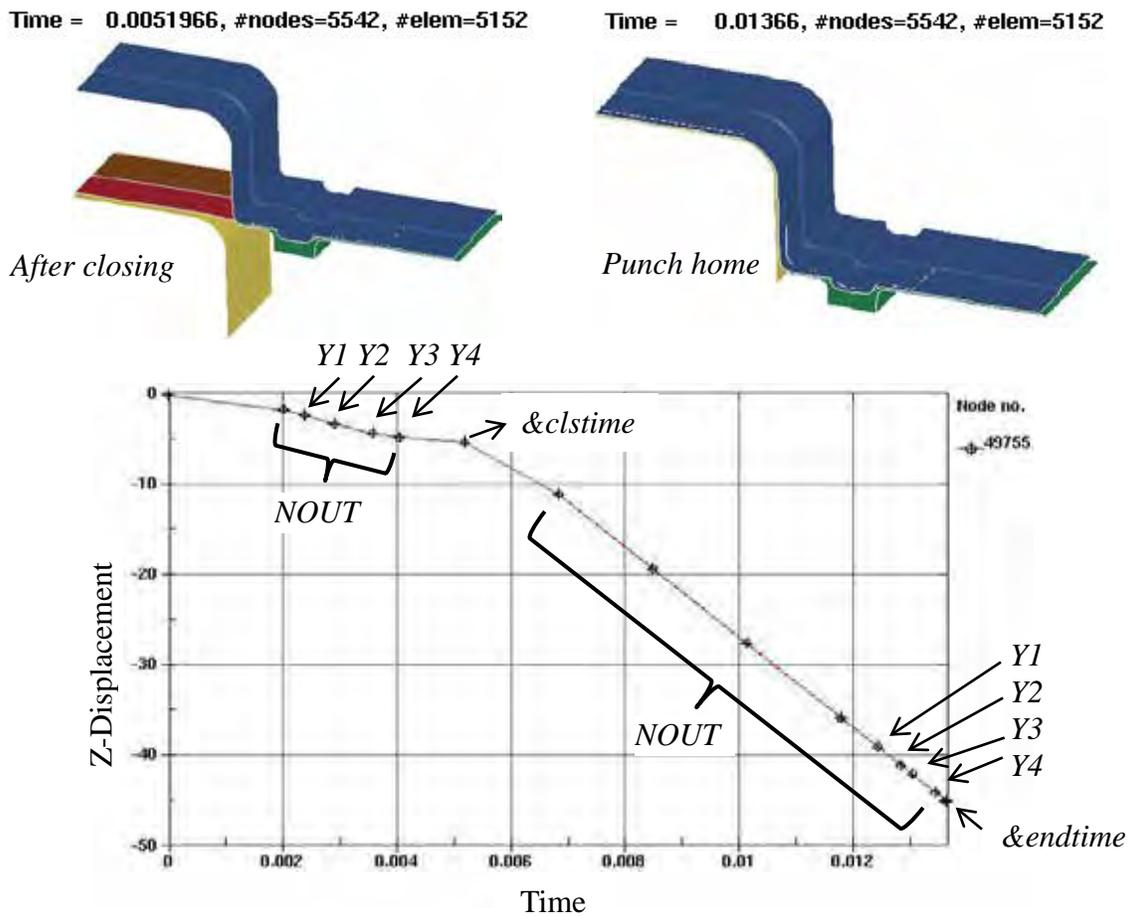

Figure 1. D3PLOT outputs viewed from nodal history plot
- 2) NOUT – total number of D3PLOT files needed for the phase that the curve ID represents. The number does not include the start and end states of the phase, referring to Figure 1.
- 5) Y1, Y2, Y3, Y4 – distances to punch home, where D3PLOT files needed. These additional plot states are a part of NOUT, not in addition to NOUT, referring to Figures 1 and 2.